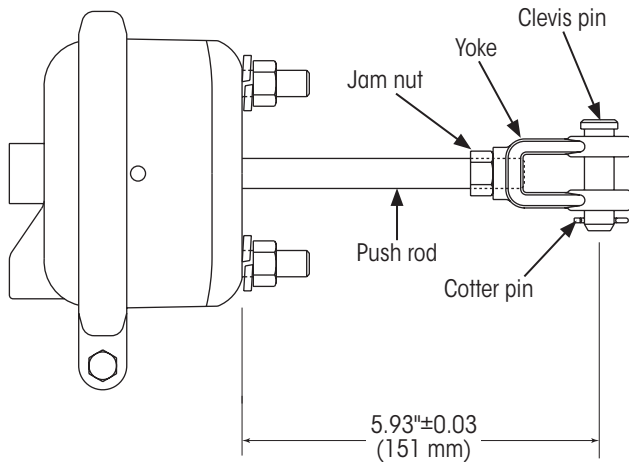

Figure 20: Verifying actuator free length
1. **Inspect** the new actuator to **ensure** the distance from the center of the clevis pin to the mounting surface of the actuator is 5.93 ± 0.03 inches (Figure 20). **If not:**